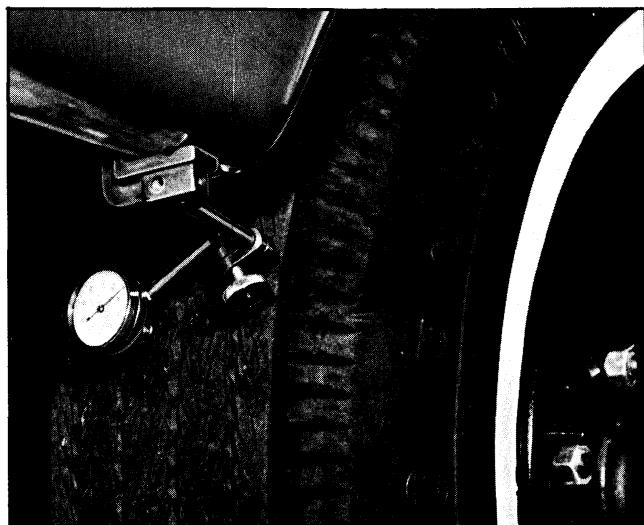

Fig. 3A-2
2. Remove wheel and tire assembly and rotate on drum until heaviest point of the assembly indexes with lightest point on the drum (the weight on the outer rim of the drum face marks the lightest point on the drums are balanced light at manufacture, see Fig. 3A-3.